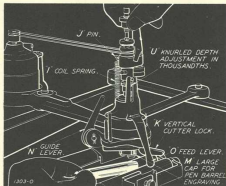

FIG. 2—LIFTING CUTTER HEAD TO PLACE PEN BARREL ON ROLLERS
4. Cut string fastening cutter head G, lift cutter sleeve to up position as shown in Fig. 2, and remove block under cutter point.
5. Examine the machine now and make sure of the following: a, knurled clamp screw on right side of roll carriage must be loose so as not to hind roll slides; b, rubber belt should be in pulley groove; c, coil spring I (Fig. 2) should be snapped on pin J; e, knurled cap M (Fig. 2) must be tight on bottom of cutter sleeve with its hinge grooved side down (Fig. 4); f, guide lever N (Fig. 2) should engage flange at rear of roller carriage.
1. See that feed lever O is over to right as far as it will go, then lift cutter sleeve till it locks in the raised position with vertical cutter lock K (Fig. 2).
2. Place pen on rollers as Fig. 2.
5. While holding the cutter sleeve at top release the lock K and lower cutter easily on pen as Fig. 2.
Depth of Cut: The depth of cut or width of line is regulated by turning the *knurled nut U* (Fig. 2) to the right for a deeper cut and heavier line, or to the left for a lighter line. Each graduation of the nut represents one thousandth inch depth of cut.
1. Disengage guide at back of roll carriage with guide lever N (Figs. 2 and 3).
(Fig. 2): When a cutter becomes dull, recognized by its failure to engrave a clean cut line, it can be replaced as follows: Swing bracket X to right and withdraw cutter. Measure distance of pulley from cutter point. Then with one pin wrench in hole of cutter pulley Y and the other in lock nut Z, loosen nut and remove pulley. Place pulley on new cutter at approximately same distance from point, tighten lock nut on pulley, and replace cutter in the machine. Swing bracket over top of cutter and adjust end thrust R (Fig. 4) so it just clears by a tissue paper thickness, taking care to tighten the lock nut L. Adjust for depth of cut as under "Depth of Cut," page 4.